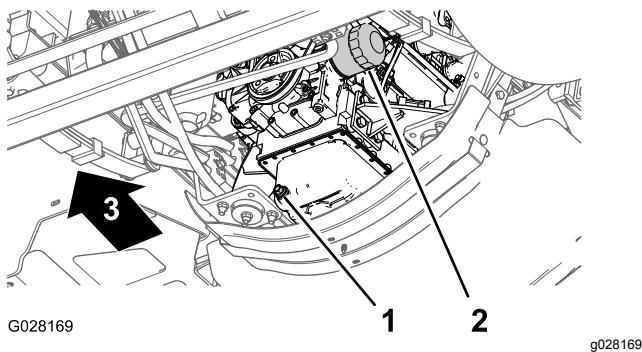

Figure 72
3. Align a drain pan under the engine oil filter (Figure 72).
4. Remove the old oil filter (Figure 72).
8. Install the oil filter to the filter adapter and turn the oil filter clockwise until the rubber gasket contacts the filter adapter, then tighten the filter an additional 1/2 turn (Figure 72).
1. Align a drain pan under the drain plug (Figure 72).
2. Remove the drain plug and allow the oil to drain completely (Figure 72).